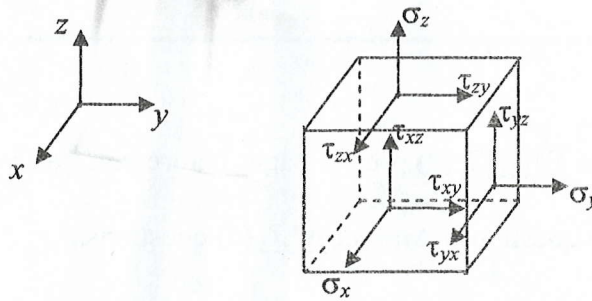

Figure 1.0
- (b) Figure 1.0 shows the stress components acting on an infinitesimal volume in a three dimensional body. Using the notation of :
- (c) The sets of equilibrium equations and strain-displacement equations for an infinitesimal volume in a three dimensional body as shown in Figure 1.0 are given as follows, respectively :